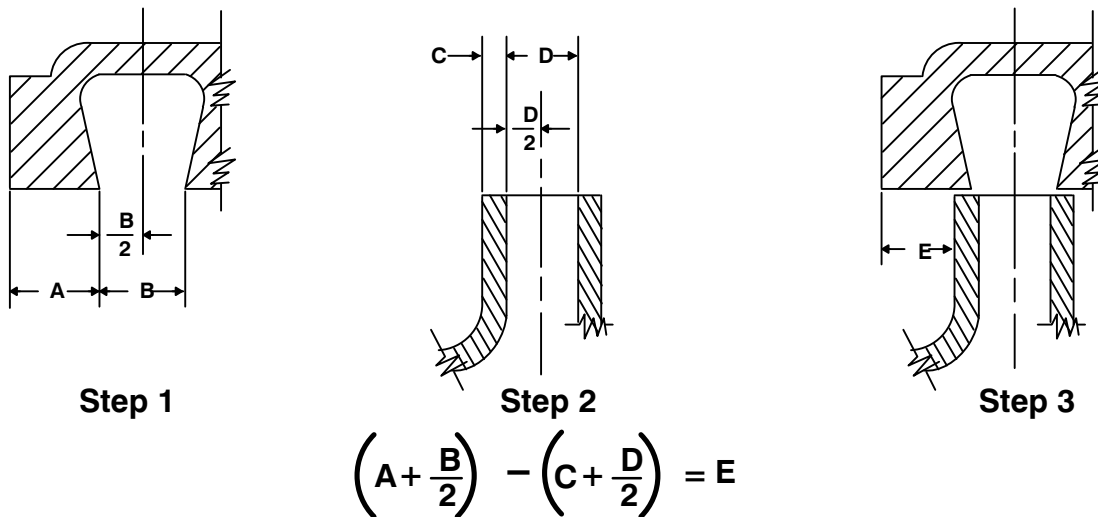

Figure 8. Centering Impeller Within Vane Plate Scroll
To verify the impeller positioning, measure the vane plate and impeller as shown in Figure 8. Use these measurements to calculate the required impeller location (dimension E). Add or remove impeller adjusting shims (15) until dimension E is obtained.